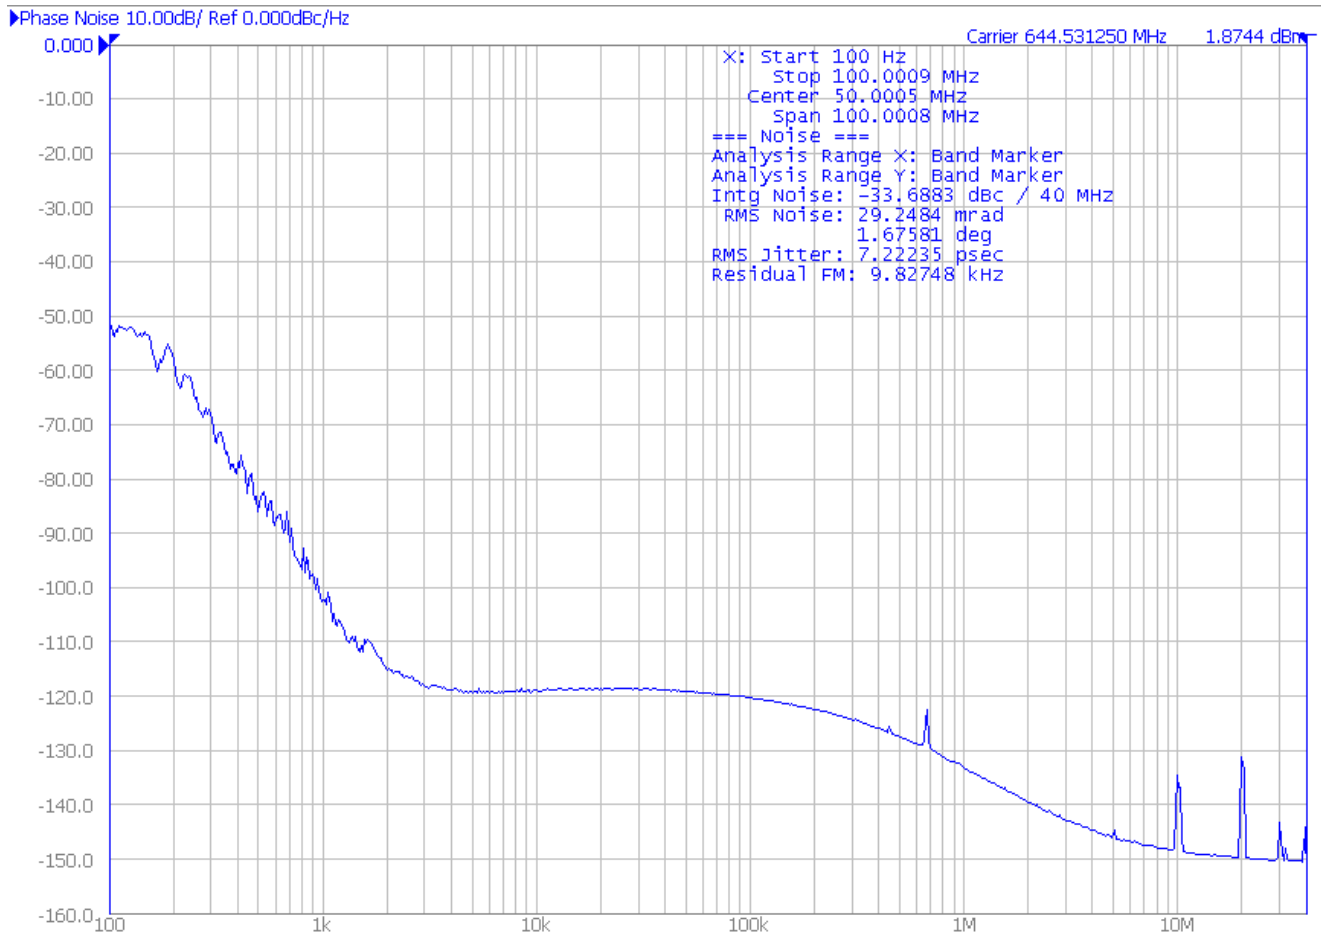

Figure 76. 78.125 MHz In; 644.531 MHz Out
**Table 57. Jitter Values for Figure 76**